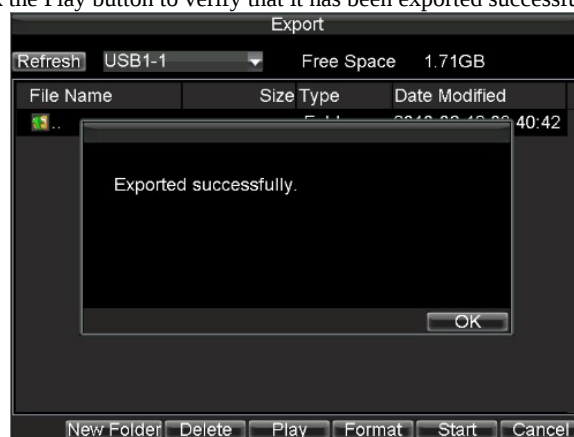

Figure 5. Export Successful Screen
8. After the backup process has completed (Figure 5), you may select the files from your device and click the Play button to verify that it has been exported successfully.